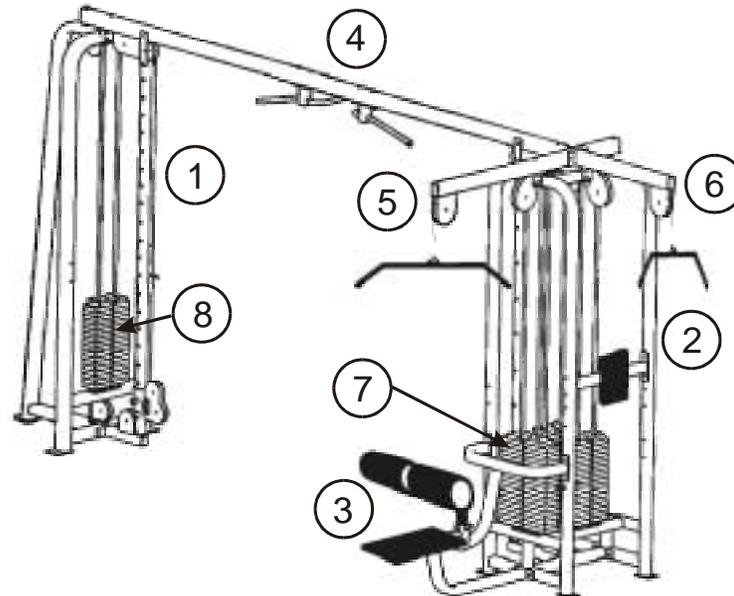
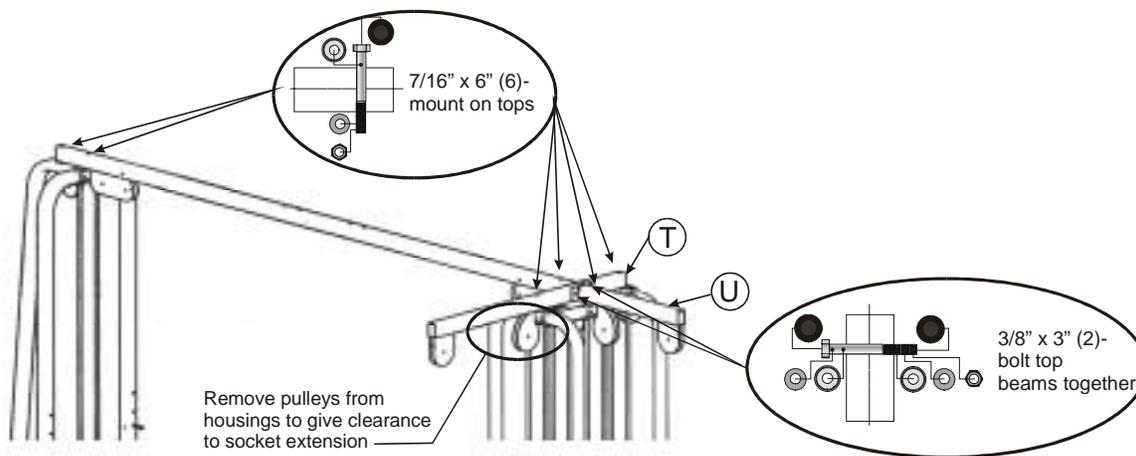

Figure 2. SM42 main components.
Figure 6. Bolt on the connecting beam, lat top, and tricep top.
Figure 2 shows an assembled SM42.
- Bolt on the connecting beam** (part 4 from Figure 2) using a 5/8" socket with extension and combination wrench, to the cells using two of the large 7/16" x 6" bolts, 7/16" washers, and 7/16" nuts (parts A, B, and C in *HARDWARE* section at end of these instructions), end cap washers and end caps (parts F and H in *HARDWARE* section). Figure 6 shows the connected cells. You will need to remove the pulleys from the teardrop pulley assemblies to gain clearance for the socket wrench extension. Leave the pulleys out of the housings until the cables have been installed.
The black rubber caps shown in Hardware Figure 2 are used to cap the ends of the cables that are threaded to the adjustable pulleys.
Hardware Figure 2. Rubber cap.
Hardware Figure 6. Weight stack rubber bumpers.